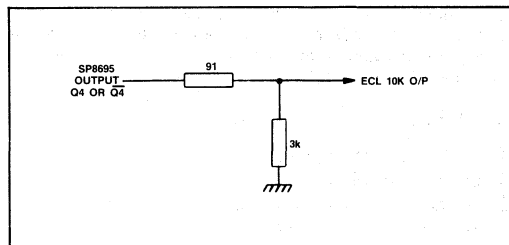

Fig. 8 Interfacing to SP8695 output to ECL 10K
3. The Q4 and Q5 ECL outputs have internal circuitry equivalent to a 14k pull-down resistor on each output and are ECL II compatible: they can however be interfaced to ECL III/10K as shown in Fig. 8.